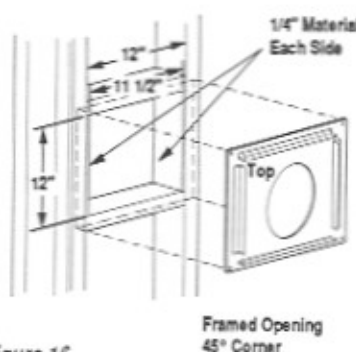

Figure 16
Step 6. Install the outside firestop assembly into prepared framed opening (Figure 16).